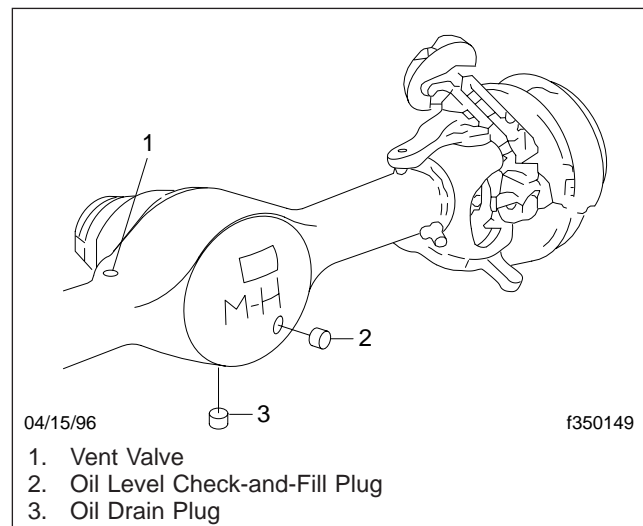

Fig. 6, All-Wheel-Drive Front Axle Differential
1. On all front-wheel-drive vehicles, check the oil level in the differential. See **Fig. 6**.
- 3.1 Remove the oil-drain plug from the differential, and allow the oil to drain. See Fig. 6.